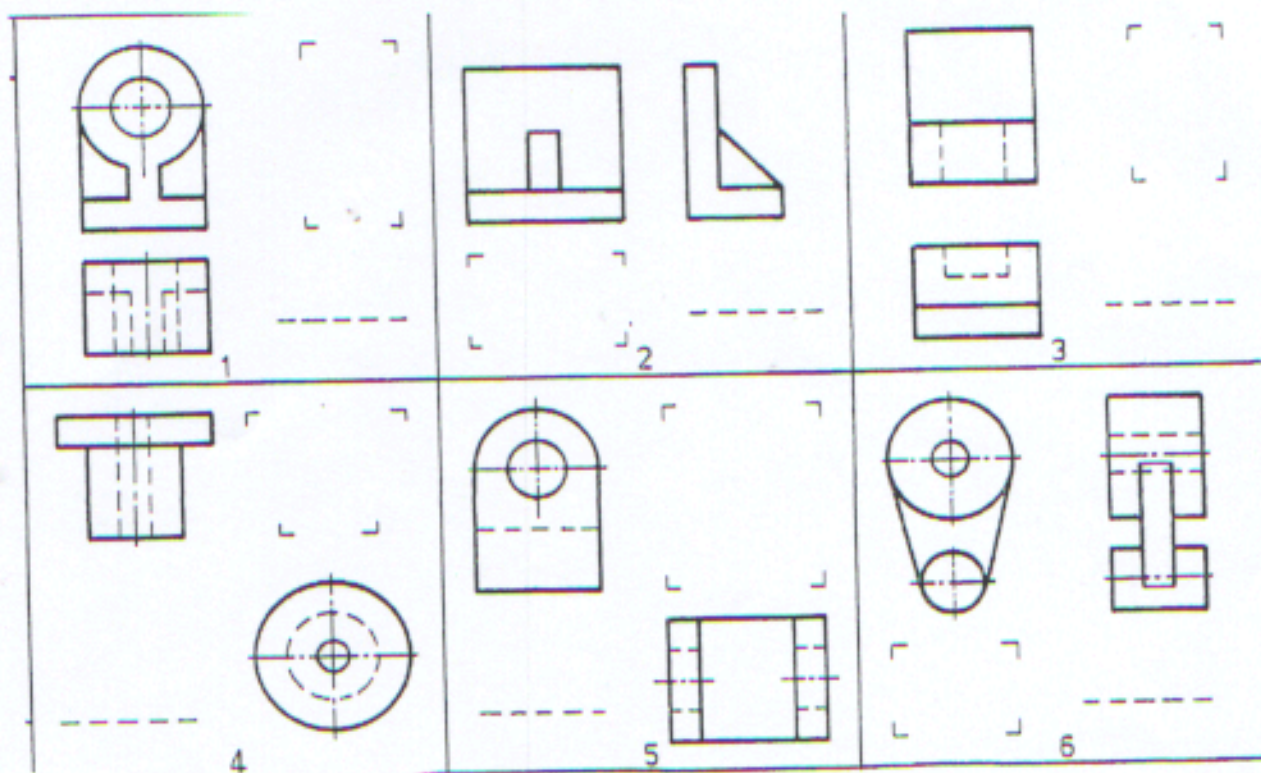

Figure 4
b) Drawings 1-6 (Figure 4) below shows two views of a component in first angle projection .on your answer sheet draw the third view. [6]